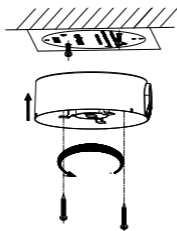

Figure 2-45 Fix the Junction Box
- Attach the junction box to the ceiling and secure it by aligning the holes with two screws and rotating the junction box according to the direction as shown in Figure 2-45. Make sure the front arrows on the drill template and junction box should be aligned together as well.